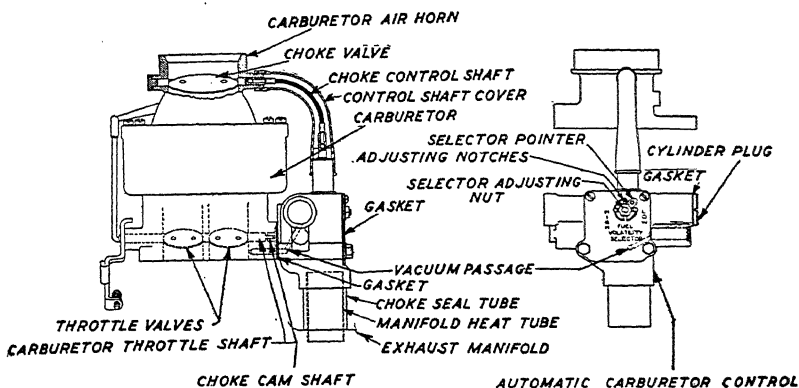
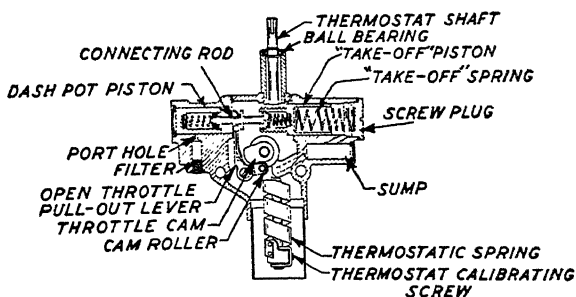

Fig. 110. Delco-Remy Automatic Opposed Piston Type Carburetor Control
Fig. 111. Sectional View of Delco-Remy Carburetor Control Showing Pistons
**Delco-Remy Opposed Piston Type.** This type of Delco-Remy Automatic Carburetor Control is mounted on the back side of the carburetor above the exhaust manifold. Fig. 110 shows how the control is mounted in relation to the carburetor and also the interconnections between the control and the carbureting system. The purpose of the carburetor control is to maintain automatically the correct fuel mixture in the carbureting system under varying temperature conditions both inside and outside the engine.
The operation of the automatic carburetor control is governed by variation of manifold temperature, intake manifold vacuum, carburetor air inlet velocity, and throttle opening. The "choking" action is obtained by means of a choke valve in the carburetor air horn which is connected directly to the control shaft shown in Fig. 110. Each of the four factors affecting the operation of the control will be considered separately. It must be remembered that in actual operation all four of these factors may be working together to produce the desired result.
shown in Figs. 110 and 111. The other end of the thermostatic spring is connected through a gear and rack to a spring loaded vacuum piston which is operated by a manifold vacuum. The thermostatic spring is so wound that with decreasing temperature it tends to close the choke valve and with increasing temperature it tends to open the choke valve. The control is mounted so that one end of the thermostat extends into a heat tube on the exhaust manifold. This feature allows changes in manifold temperatures to be quickly transmitted to the control unit mechanism. The thermostatic spring is calibrated so that the proper "choking" action is obtained at various operating temperatures. At temperatures of
**Intake Manifold Vacuum.** The amount of vacuum in the intake manifold of the engine varies with the amount of load on the engine. When the engine is pulling heavily, the amount of vacuum is much smaller than when there is little or no pull on the engine. This variation in vacuum is used to operate the "take-off" piston in the control unit, as shown in Figs. 110 and 111. When there is little or no vacuum being created in the engine manifold, the take-off piston is held forward toward the center of the control unit by the
**Throttle Opening.** The carburetor throttle shaft is connected directly to the choke camshaft, as shown in Fig. 110. Thus, the movement of the throttle is transmitted through the choke camshaft, throttle cam, cam roller, and pull-out lever to the connecting rod and linkage between the "take-off" piston and dashpot piston. The movement somewhat modified by the other controlling factors, according to operating conditions, passes through the gear and rack, thermostat and shaft to the choke valve. This action is not transmitted to the choke valve immediately due to the retarding action of the dashpot piston. The movement of the throttle cam loads the pull-out lever spring and the tension of this spring on the pull-out lever gradually moves the dashpot piston forward in its cylinder. See Fig. 111. The port hole in the dashpot piston cylinder allows
**Fuel Volatility Selector.** The fuel volatility selector is provided to take care of variations in fuel volatility encountered in various brands of fuel. The adjusting mechanism is located on the cover plate and adjustments can be made without disassembling the control unit. The selector pointer for regular gasolines is set as shown in Fig. 110. That is, one notch from extreme "low" volatility. The three notches toward the "high" position provide ample adjustment to cover the most volatile brands of gasoline, if the car owner prefers to use them. When the choke is adjusted for highly volatile fuels, the adjustment will be too lean for regular blends, and will cause "popping" or "spitting." Whenever the adjustment is changed, this fact should be explained to the owner. Setting the selector in
**Check Control on Car.** If the engine is not operating as it should and the carburetor control is thought to be at fault, the unit should be checked on the engine. Such a check will definitely determine if the trouble is in the control or whether it should be looked for elsewhere about the engine. Since the moving parts of the control are completely enclosed, it is necessary to remove the air cleaner to check the action of the unit on the engine. With the air cleaner removed, it is possible to observe the action of the choke valve, Fig. 110. The following observations should be made before the unit is removed from the engine. First, the choke valve should be free and when opened or closed manually should return to its original position. With the engine cool and stopped, push the throttle wide open. After a delay of 7 to 10 seconds the choke valve should slowly move toward the open position. Close the throttle and the choke valve should return at once to its original position. If the action described above is not obtained, a check should be made for binding or sticking pistons.
the moving parts as shown in Fig. 111. It is very important that moving parts be free and that pistons are clean and do not stick in the cylinders.